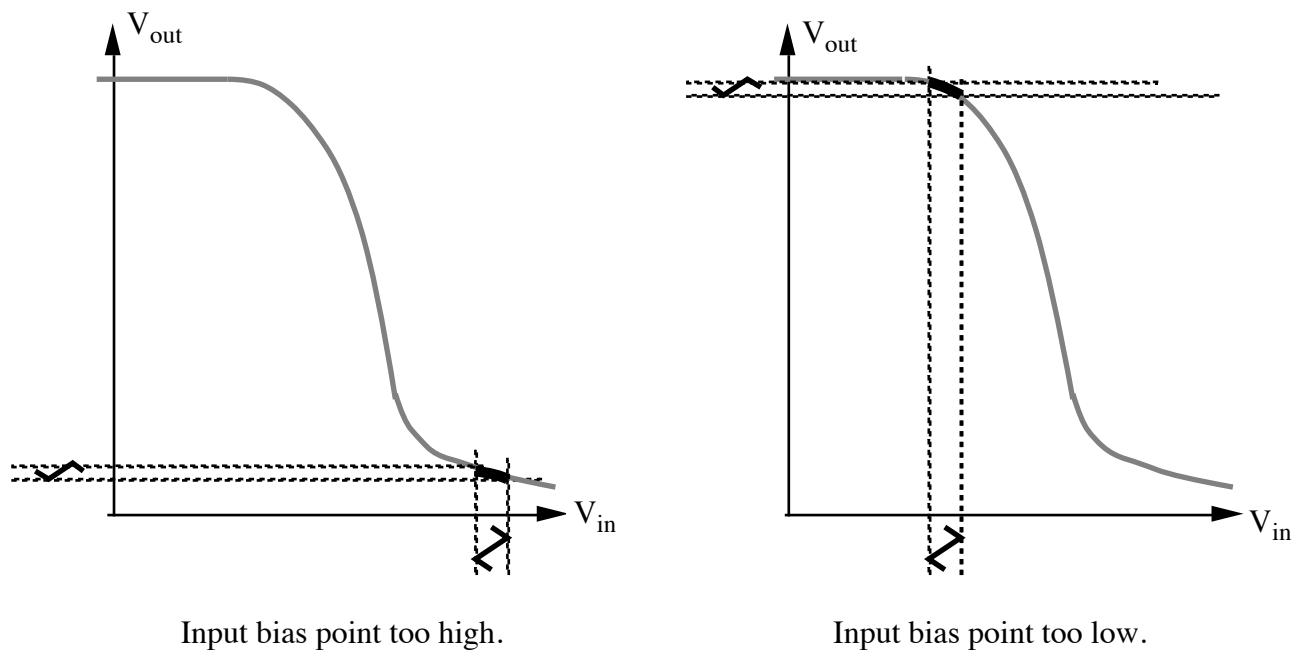

Fig. 4-4.
- L4-10. Using DC coupling, display both  $V_{in}$  and  $V_{out}$  on the scope. Using the DC offset control on the function generator, adjust the input bias point away from the operating point you set in part L4-7. Note how the gain drops and the output waveform becomes distorted if the input bias point is too high or too low, as shown in Fig. 4-4.